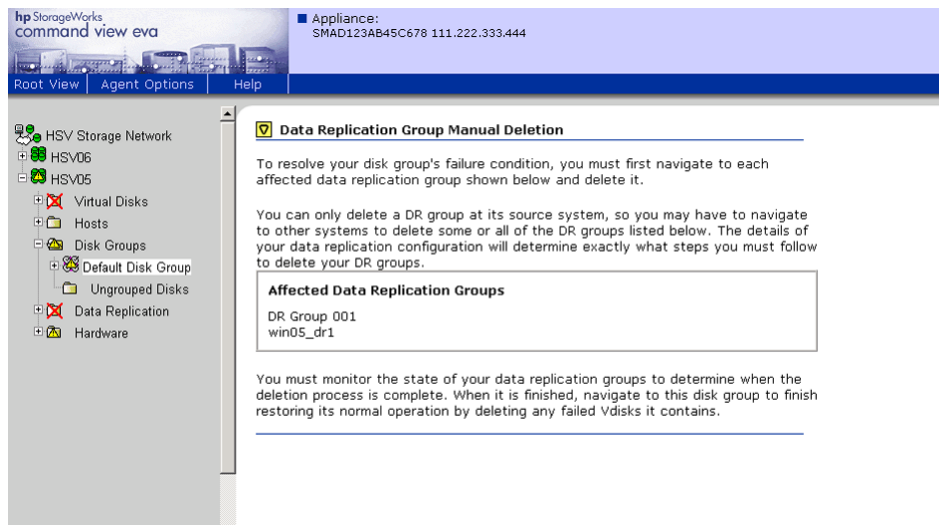

Figure 52: Command View EVA manual deletion message
5. An informational screen similar to Figure 52 is displayed and lists affected DR groups requiring deletion.